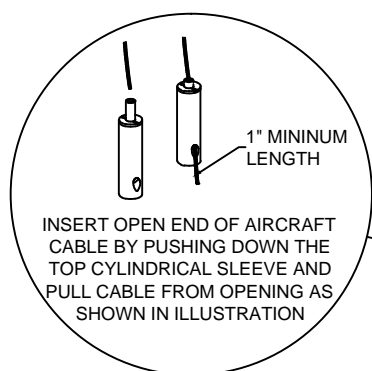

Figure 3
4. Lift the fixture and attach the loose end of the aircraft cables to the cable gliders - see Figure 3